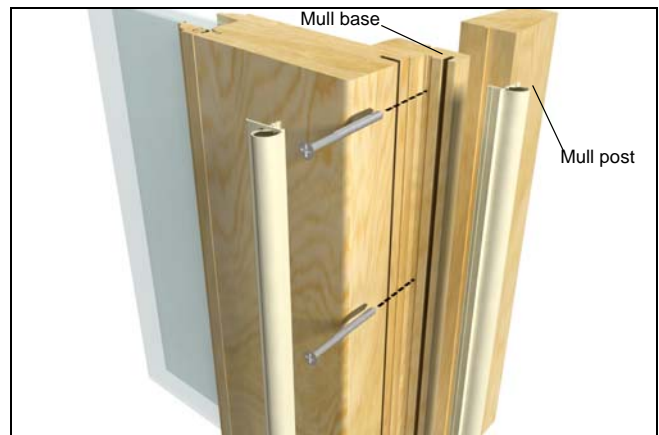

Figure 10
5. On wood units to detach the panel from the mull post, first expose the screws holding the astragal base to the mull post by removing the astragal and panel weather strip. Remove the screws securing mullion casing base to mullion casing. See figure 10.